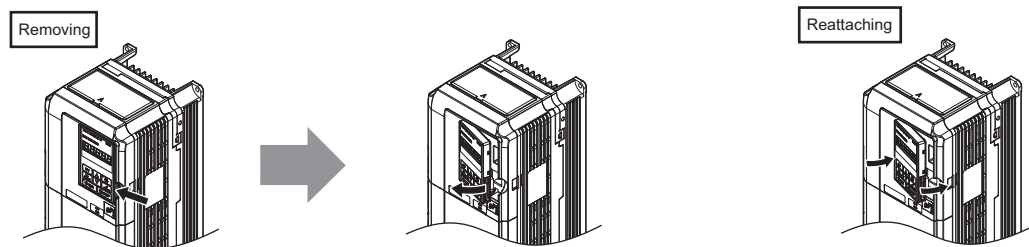

Figure 3.21 Removing/Reattaching the Digital Operator
4. Unhook the left side of the front cover then swing the left side towards you as shown in Figure 3.21 until the cover comes off.